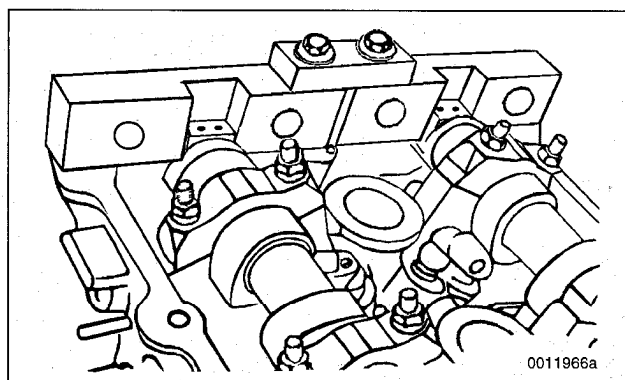

Fig. 24. BMW special tool no. 11 3 240 installed on rear of camshafts to position camshafts at TDC. (M44 camshafts shown. Other engines are similar.)
The procedure outlined below assumes that the camshafts and the crankshaft are locked in the TDC installation position with special tools (shown earlier in Fig. 23 and Fig. 24).
On pre-VANOS engines (engines built up to 8-92), the camshaft locking tool (Fig. 24) should be raised up on either side by 3mm (use feeler gauge or drill bits). Be sure the clamping bolts on tool are loose and the center of the tool is contacting the cylinder head surface. This service campaign helps improve idle characteristics by reducing valve overlap.
19. Remove cylinder head cover mounting studs at rear of head. Lock camshafts at TDC using BMW special tool no. 11 3 240 at ends of camshafts. See Fig. 24..